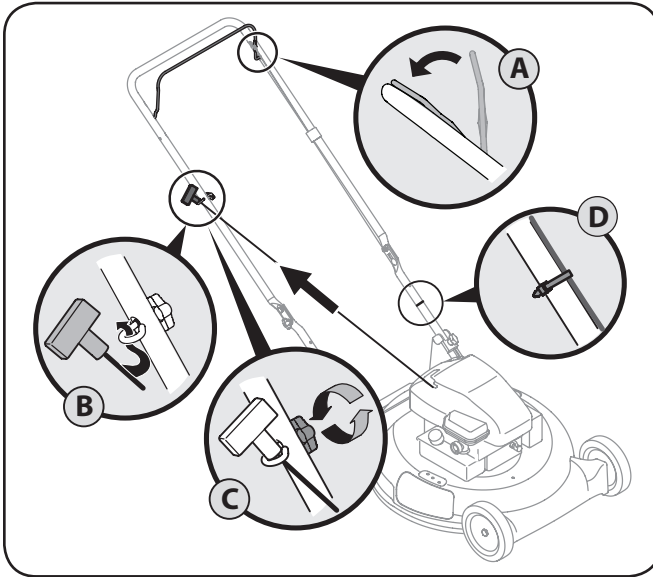

Figure 3-5
- The rope guide is attached to the right side of the upper handle. Loosen the wing knob which secures the rope guide. See Figure 3-5.
- Slowly pull starter rope handle from engine and slip starter rope into the rope guide. See Figure 3-5.